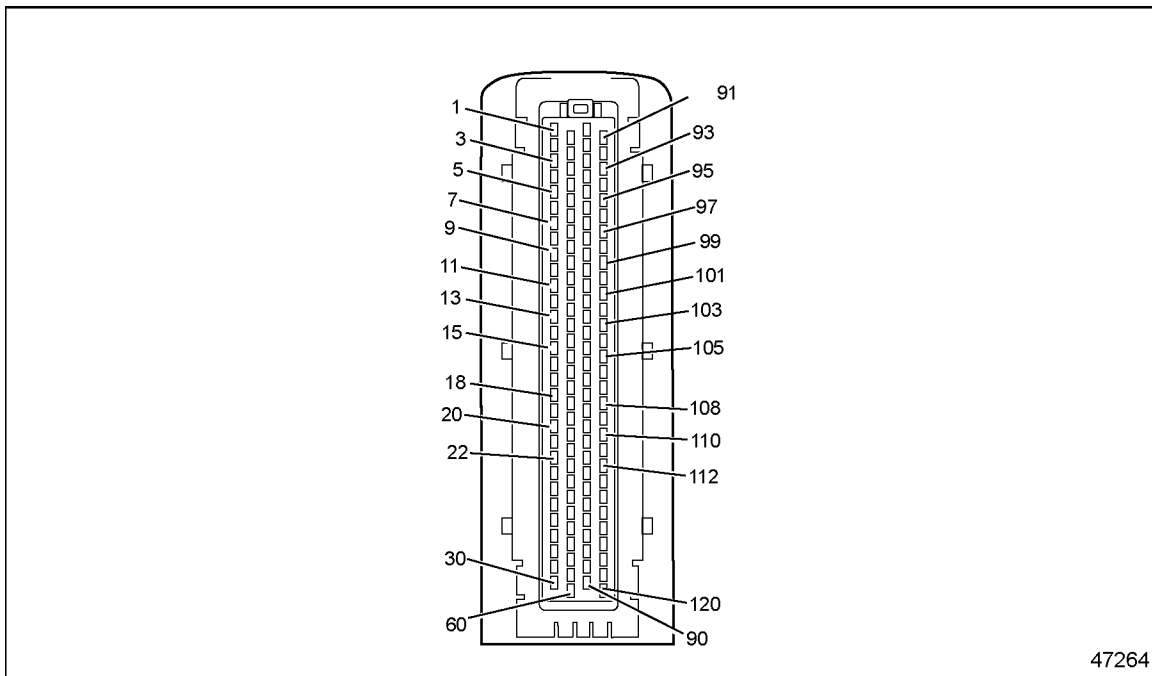

Figure 122-1 120-pin MCM Connector
- [a] If voltage is present, repair the short to power between pin 11 of the Rear Injector Harness 12-pin connector and pin 9 of the 120-pin MCM connector. See Figure 122-1. Refer to section 122.1.1.1.